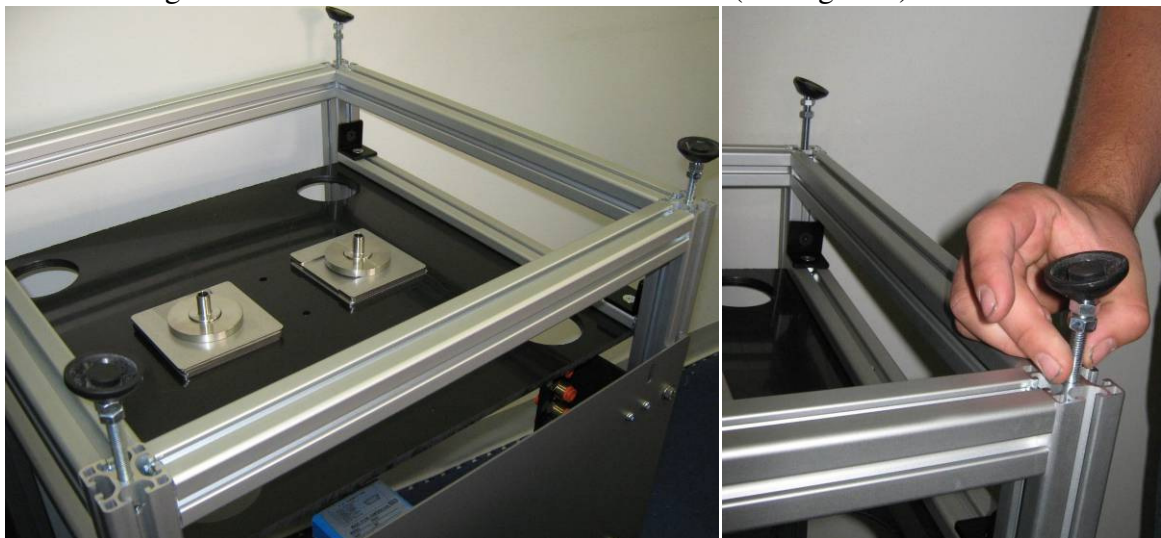

Figure 7 Removing the feet from the lower section of the ACS rack.
- Carefully turn the lower rack section over and unscrew the adjustable feet. (see Figure 7)